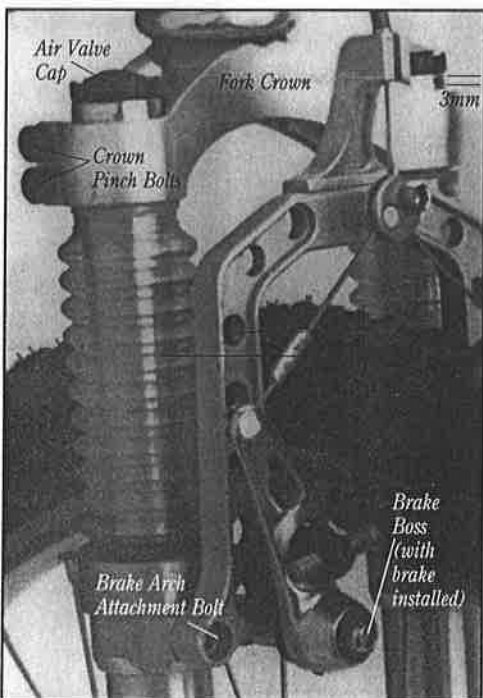

Fig. 25
1. Make sure that the stanchions are inserted an equal distance into the fork crown. The stanchions should be even, and should not extend more than 1/8 inch (3mm) above the fork crown (Fig. 25).